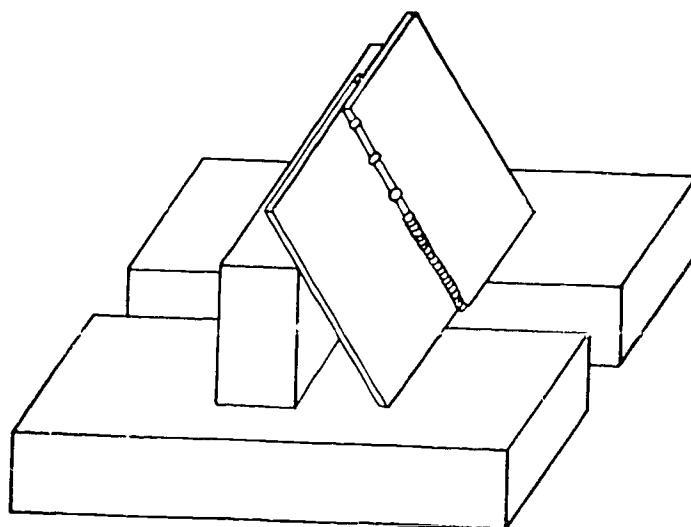

Figure 2-7. Vertical lap joint.
**Vertical Position.** When you are welding with the parts inclined at an angle greater than  $45^\circ$  and the seam is running vertically, as illustrated in figures 2-7 and 2-8, you produce a vertical weld. During vertical welding, gravity causes the molten metal to run down and produce a highly crowned bead. To control the flow of the molten metal, hold the flame below the welding rod and point it upward at an angle of  $45^\circ$  to the plate. Removing the flame momentarily when the molten metal tends to sag will aid in producing a weld of proper contour. The solidified weld metal just below the molten pool acts as a ledge that provides support.